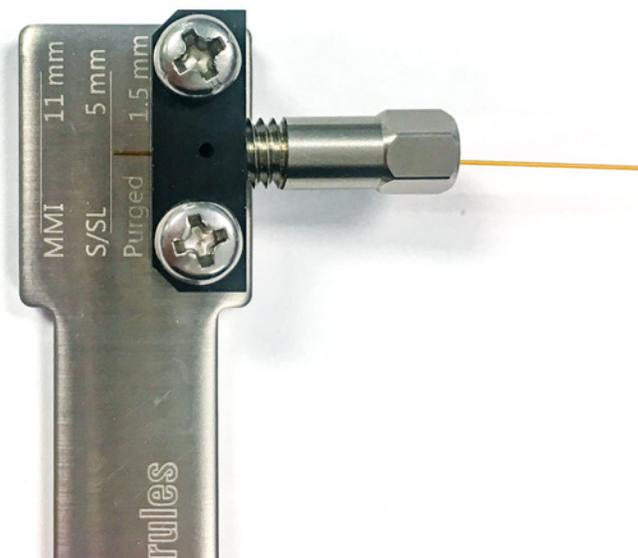

Figure 14. Thread the column nut onto the swaging tool
- 4 Loosely thread the column nut into the swaging tool until you start to feel resistance. The column should still slide freely. See **Figure 14**.